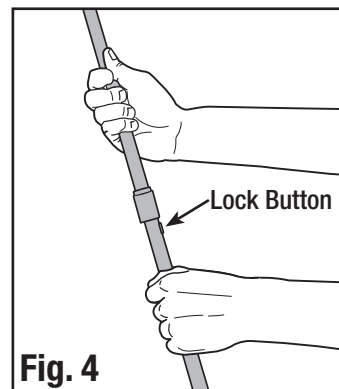

Fig. 4
- Extend each of the telescoping leg poles until they snap into place. The screenhouse will raise as the leg poles are extended. (Fig. 4)